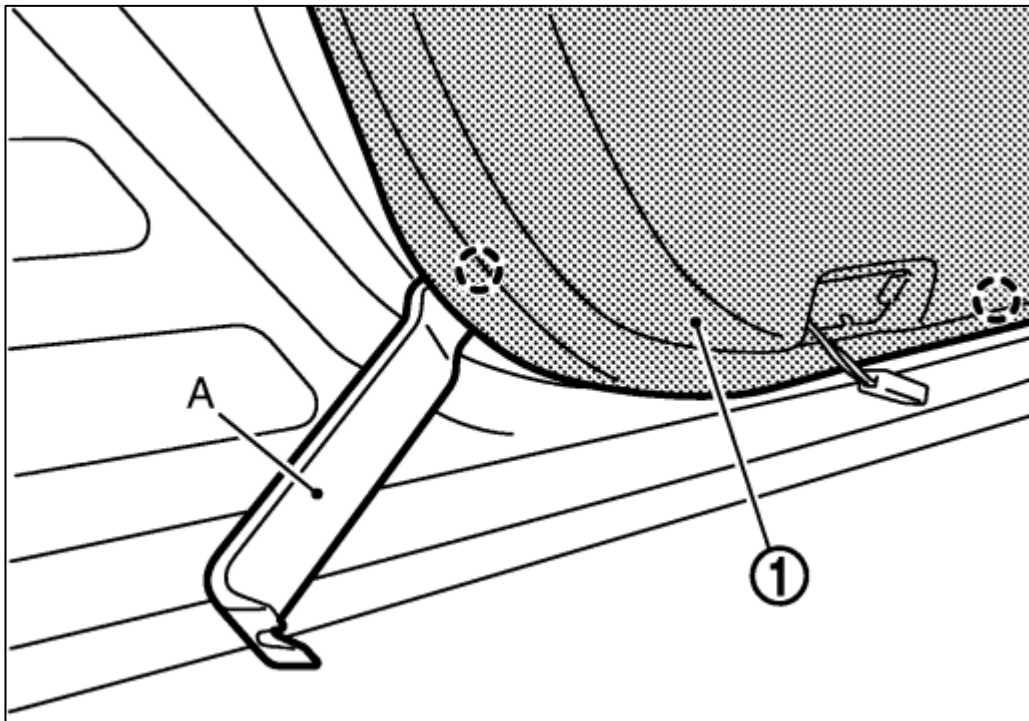

Figure 51
8. Using a Trim Removal Tool, pry the lower side of the Door Panel away from the door. Slowly go around the entire Door Panel to release it from the Door. Support the Door Panel from falling when it is released. *Figure 51.*